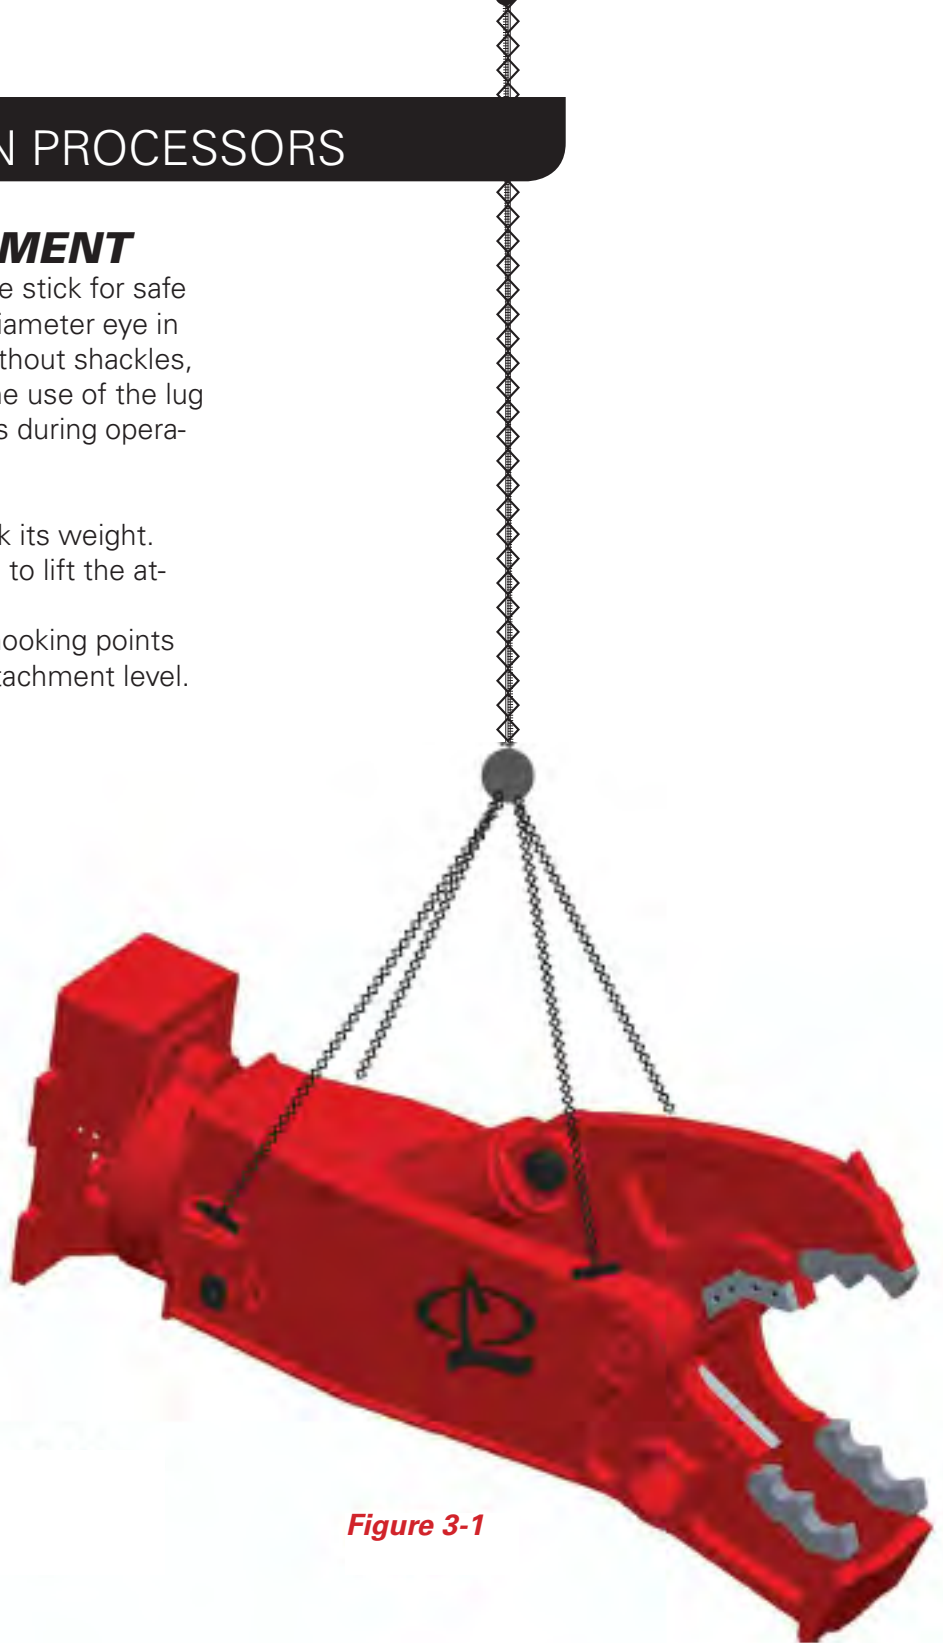

Figure 3-1
2. Lift the attachment using all four hooking points with rigging lengths that keep the attachment level. See Figure 3-1.